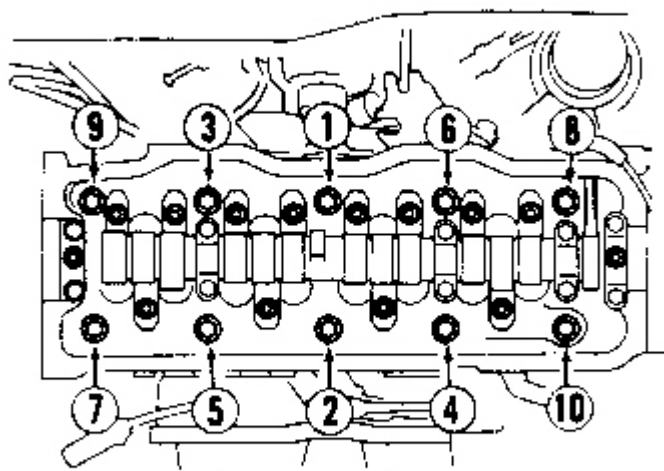

Fig. 3: Cylinder Head Bolt Tightening Sequence
9. Remove cylinder head. Loosen cylinder head bolts in 3 stages, in reverse of tightening sequence. See **Fig. 3**. Remove cylinder head. Use care not to damage cylinder head or engine block contact surfaces.
2. Tighten cylinder head bolts in 3 stages, in sequence. See **Fig. 3**. Tighten cylinder head bolts to proper specification. See **TORQUE SPECIFICATIONS** table.